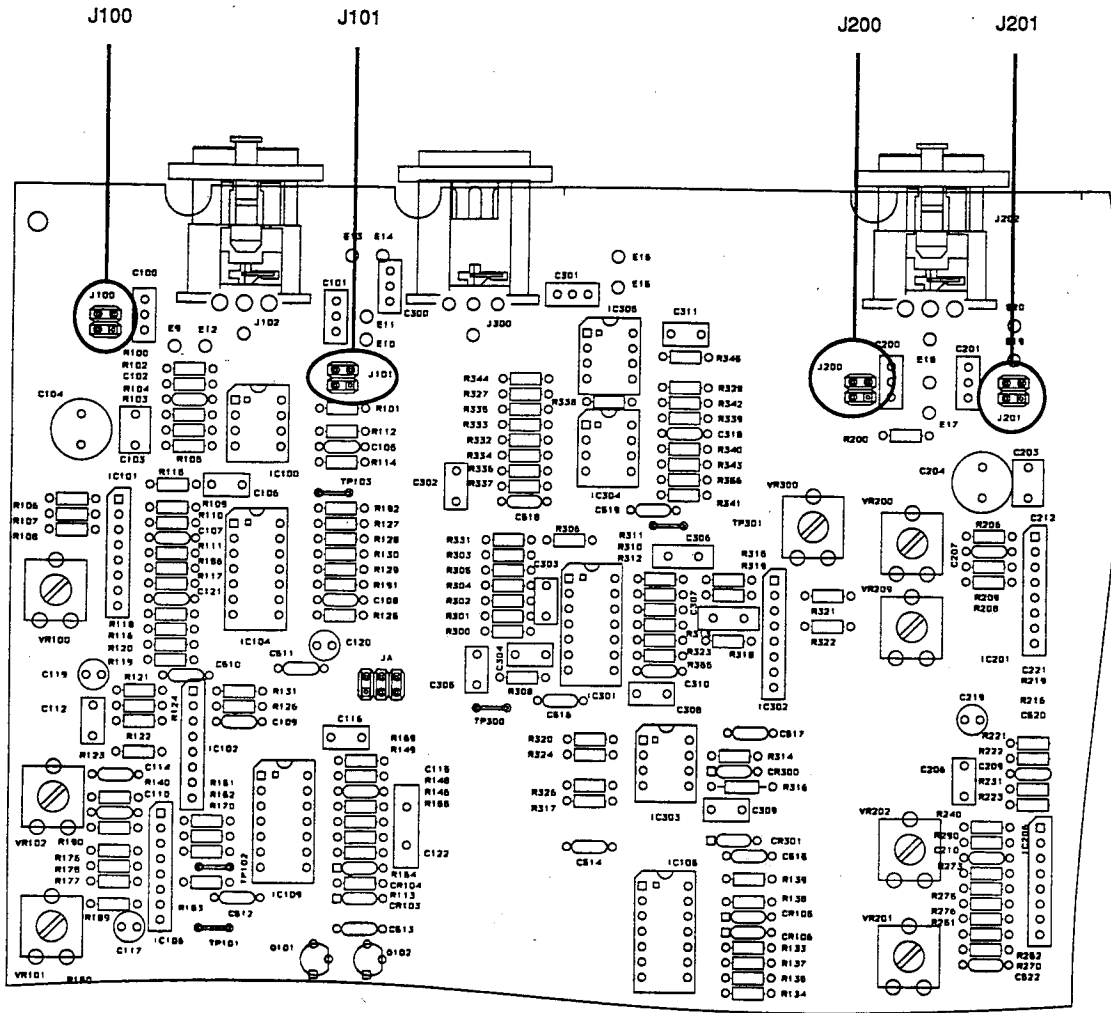

Figure 4: Input Level Jumpers
- B. To operate the input with -10dBV nominal levels, reposition jumpers JA, JB, JC, and JD on the main circuit board to the -10 position (see Figure 4).